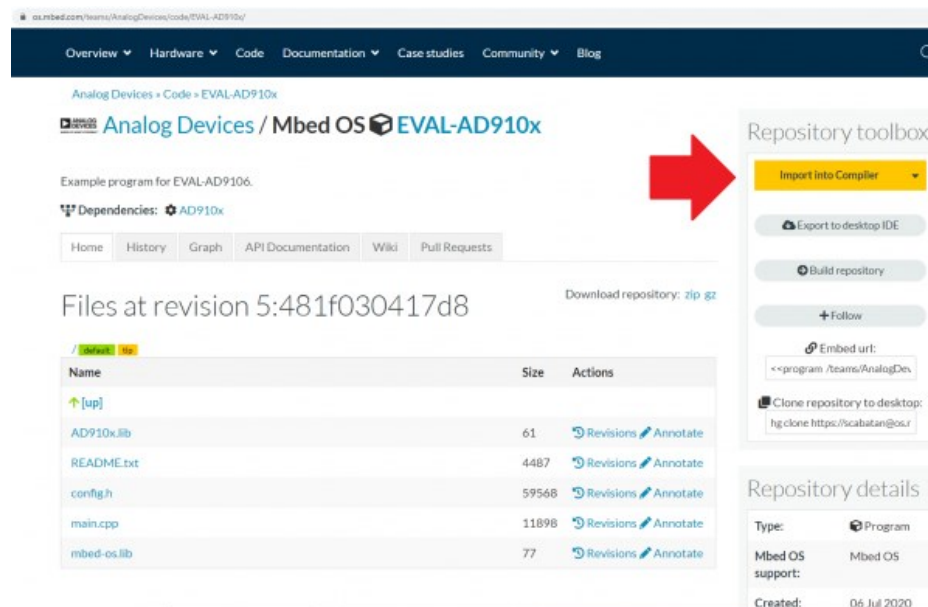
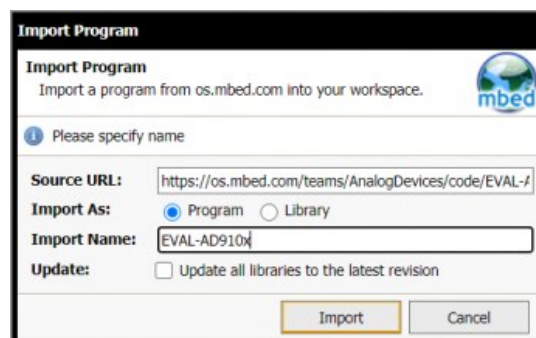

Figure 3. EVAL-AD910x Mbed code in Analog Devices repository
Figure 4. Importing code as program
4. Log on to <https://os.mbed.com/> then go to the EVAL-AD910x example code repository. Click the “Import into Compiler” button as shown in Figure 3. The browser should automatically redirect to the Mbed compiler. Select SDP-K1 as development platform then import codes as program. See Figure 4.